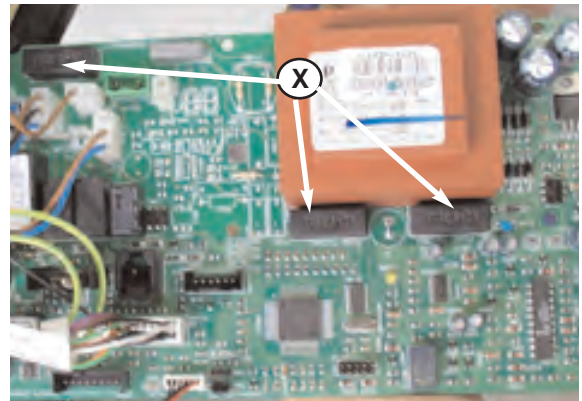

Fig. 99
2. Remove the fuses "X" (see Fig. 99)